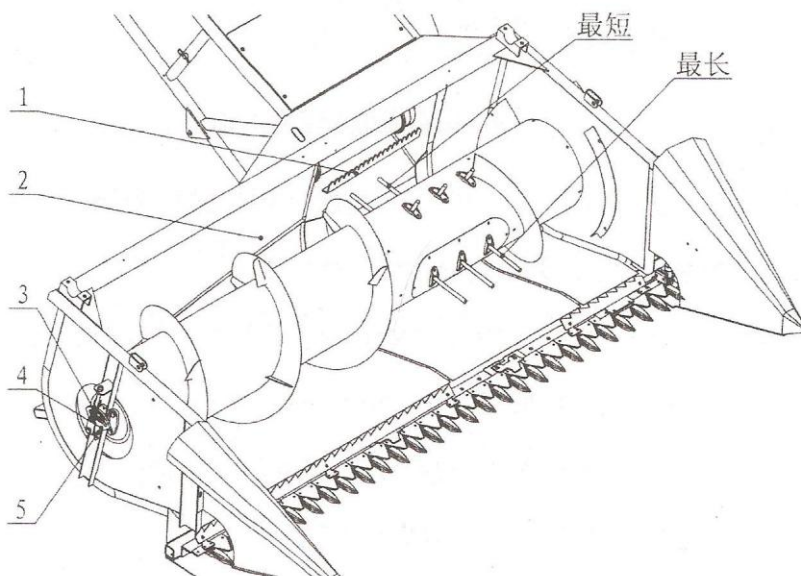

Figure 6 Adjustment of the Spiral Conveyor of the Cutting Table
III. Adjustment of the Spiral Conveyor of the Cutting Table, see Figure 6
The spiral conveyor of the cutting table has been adjusted when leaving tile factory. When the extension lever turns to the side of the feed port of the conveyor groove, it should be retracted to the shortest length; when turning to the side of the base plate of the cutting table it should have a gap larger than 5 mm with the base plate. When adjustment is needed, first loosen the nut(3) on the left support seat of the spiral conveyor move the eccentric axle adjustment block(4) to reach the requirement then lock the nut (see Figure 6).